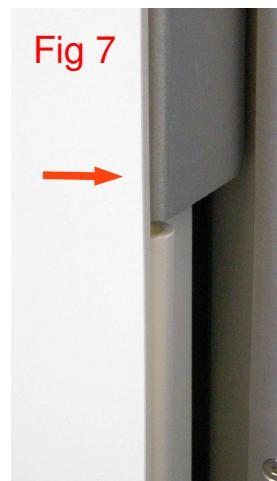

Fig 7
4. Continue pushing the top of the Panel forward until it snaps into place. (Fig 7)
- Using Loctite 248 and avoiding the Antenna, install the 3 Bracket mounting screws and torque to 1.58Nm using the Large torque driver. (Fig 7)